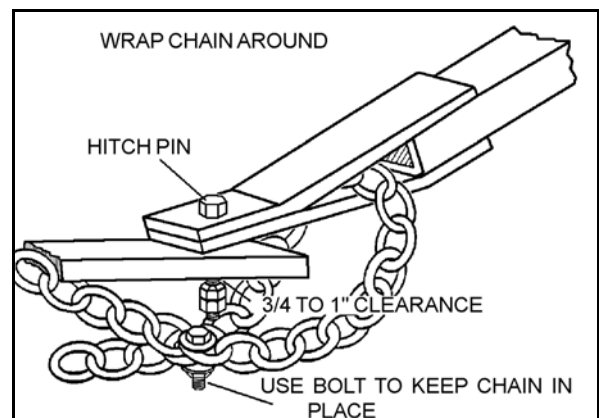

Figure 4.2
2. Position and secure hitch pin and safety chain. Place safety chain through clevis welded to auger hitch tube and bolt together before attaching to tractor. Refer to Figure 4.2.
**Important:** Use a type of hitch pin (see Figure 4.2) that will not allow auger to separate from towing vehicle.